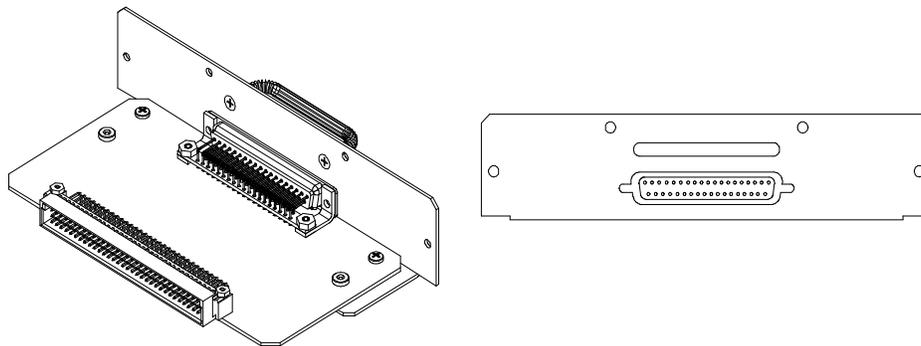

Figure 7-5. 2x/4x IDU Protection Option Card
- If the IDU is not fitted with a Protection Option Card, shown in Figure 7-5, install the Protection Option Card into each IDU by removing the rectangular plate secured to the rear of each IDU with four small Phillips dome-head screws and insert the option card in its place. Secure card using the four Phillips dome-head screws.